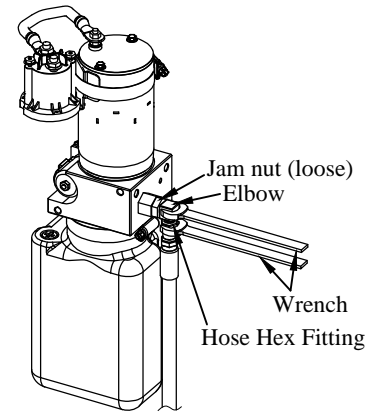

Figure 4: Hose connection.
8. **Disconnect** hose to elbow connection. While attempting to loosen the hose with an open end wrench, hold the elbow in place with another open end wrench (Figure 4).
9. **Connect** the hose to the elbow on the power unit housing (Figure 4).